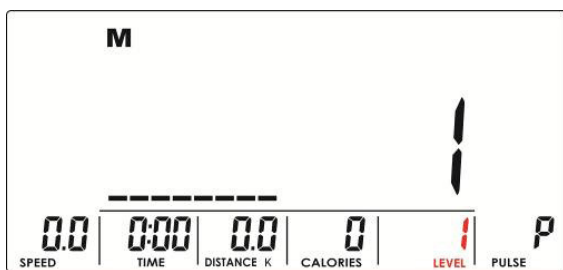

Figure 4
2. Set the resistance level with the jog dial and confirm with the Mode button (Fig. 4).